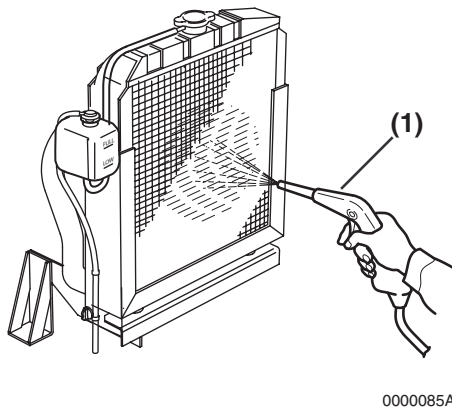

Figure 10
Note that a typical radiator is shown in **Figure 10** for illustrative purposes only.
- Blow off dirt and dust from fins and radiator with 28 psi (0.19MPa, 2kgf/cm²) or less of compressed air (**Figure 10, (1)**). Be careful not to damage the fins with the compressed air.